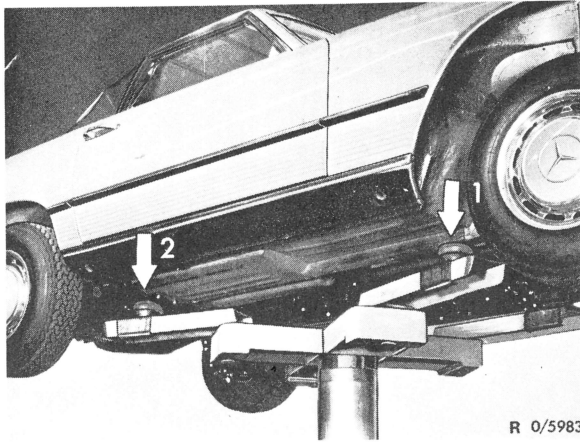

Fig. 6
Place mounting blocks on front axle at inner frame side members (1), at rear axle on supporting plates of rear axle carrier (2) front bearing (Fig. 6 and 7).